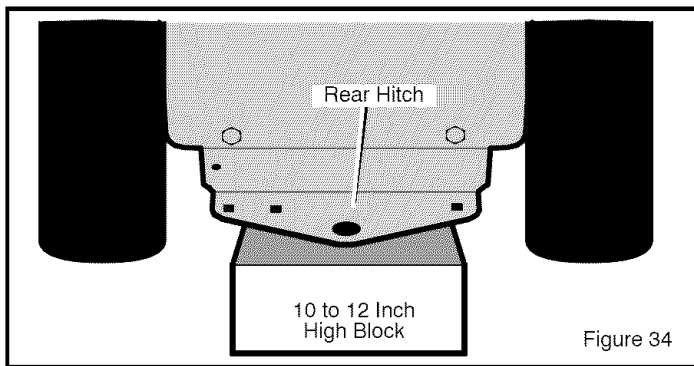

Figure 34
2. Set the **rear hitch** on a **10 to 12 inch block**. The block must be high enough to raise the rear wheel off the ground (see Figure 34).